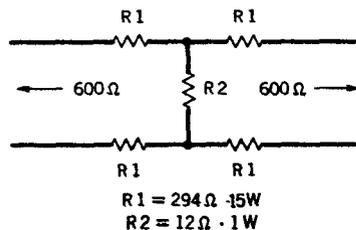

Fig. 2 - Output Pad
5.02 If a 21A TMS is used, the full output of the amplifier will exceed the range of the detector. Hence, it will be necessary to pad the output of the amplifier. Fig. 2 shows a suggested 40 db, 600-ohm pad which may be used for this purpose. Actually, any pad value may be used which will bring the amplifier output within range of the DET(TMS). Non-inductive type resistors should be used so as not to impair the over-all response measured by the DET(TMS). The suggested pad should be capable of dissipating at least 30 watts of power. A 15-watt resistor manufactured by the Ohmite or Ward-Leonard Company, or equivalent, may be used for R1. A one-watt resistor should be used for R2. The pad should be accurately measured to determine its loss.